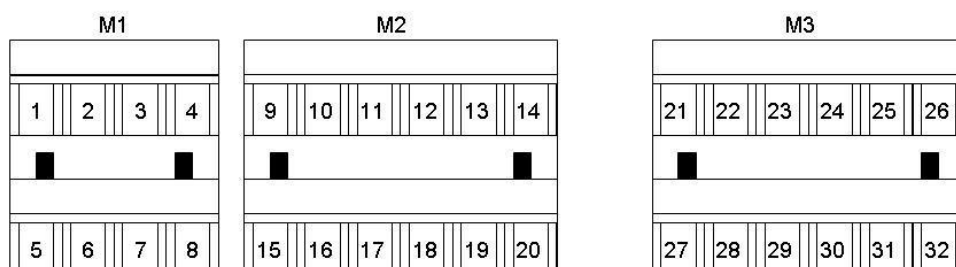

Figure 197: Input-output signal terminal boards
- Output line-driver encoders supplied from 5V external source: pin 5 in M1 “+5V\_EXT” at 5V and pin 7 in M1 “0V\_EXT” at 0V (see Figure 197).